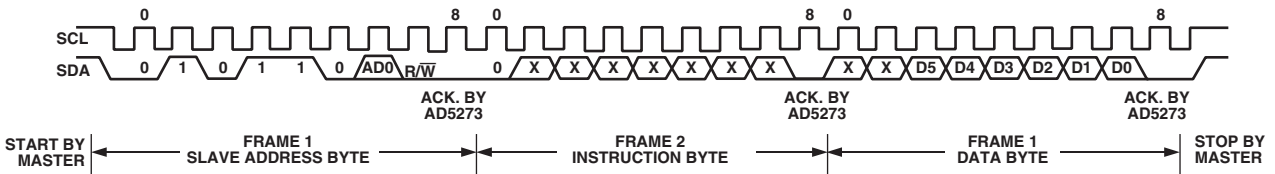
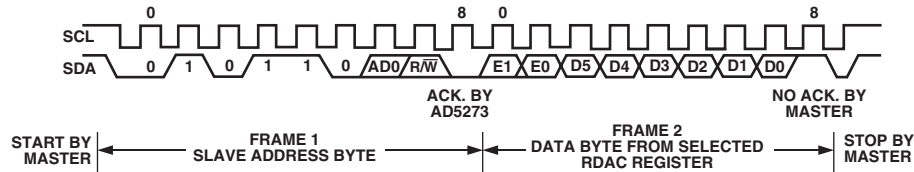

Figure 10a. Writing to the RDAC Register
Figure 11. Reading Data From the RDAC Register
For users who do not use the software solution, the AD5273 can be controlled via an I2C compatible serial bus and is connected to this bus as a slave device. Referring to Figures 10a, 10b, and 11, the 2-wire I2C serial bus protocol operates as follows:
1. The master initiates data transfer by establishing a START condition, which is when SDA goes from high to low while SCL is high, Figure 10a. The following byte is the Slave
2. A Write operation contains one more Instruction byte than the Read operation. The Instruction byte in the Write mode follows the Slave Address byte. The MSB of the Instruction byte labeled T is the One Time Programming bit. After acknowledging the Instruction byte, the last byte in the Write mode is the Data byte. Data is transmitted over the serial bus in sequences of nine clock pulses (eight data bits followed by an Acknowledge bit). The transitions on the SDA line must occur during the low period of SCL and remain stable during the high period of SCL. See Figure 10a.
3. In the Read mode, the Data byte follows immediately after the acknowledgment of the Slave Address byte. Data is transmitted over the serial bus in sequences of nine clock pulses (slight difference with the Write mode, there are eight data bits followed by a No Acknowledge bit). Similarly, the transitions on the SDA line must occur during the low period of SCL and remain stable during the high period of SCL as shown in Figure 11.
4. When all data bits have been read or written, a STOP condition is established by the master. A STOP condition is defined as a low-to-high transition on the SDA line while SCL is high. In the Write mode, the master will pull the SDA line high during the tenth clock pulse to establish a STOP condition, Figures 10a and 10b. In the Read mode, the master will issue a No Acknowledge for the ninth clock pulse, i.e., the SDA line remains high. The master will then bring the SDA line low before the tenth clock pulse which goes high to establish a STOP condition. See Figure 11.